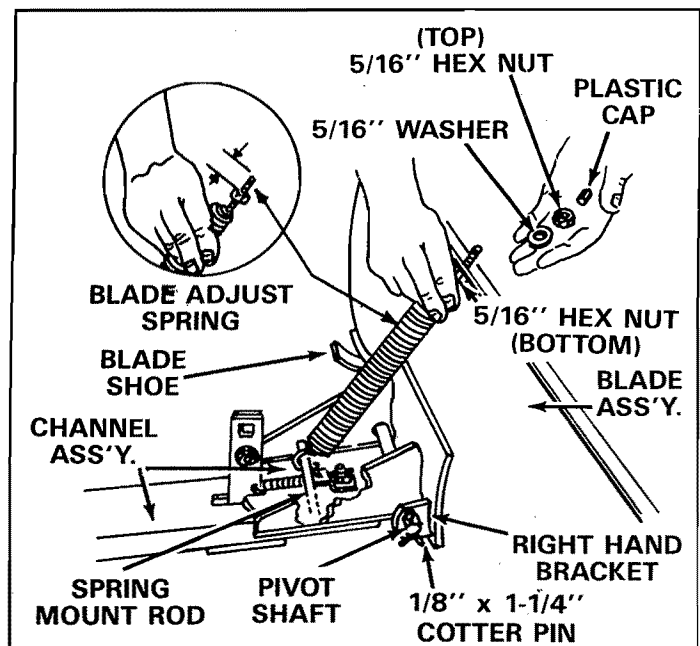

FIGURE 9
5. Assemble blade assembly to channel assembly by aligning holes in pivot plate with holes in reinforcement plate and inserting pivot shaft. See figure 9. Secure by assembling two 1/8" x 1-1/4" cotter pins into small holes near ends of pivot shaft. Spread ends to retain.
6. To assemble blade adjust spring, remove plastic cap, 5/16" flat washer and one 5/16" hex nut. Adjust the remaining 5/16" hex nut on the long bolt to approximately one inch down from end of bolt threads. Assemble adjusting bolt through hole in top edge of blade and hold in place with 5/16" flat washer and 5/16" hex nut removed earlier. **Do not tighten 5/16" hex nut at this time.** Push down on the spring and hook end of spring over spring mount rod as shown in figure 9. Tighten 5/16" hex nut on top edge of blade down against the bottom 5/16" hex nut. Replace plastic cap over end of adjusting bolt threads. See figure 9.